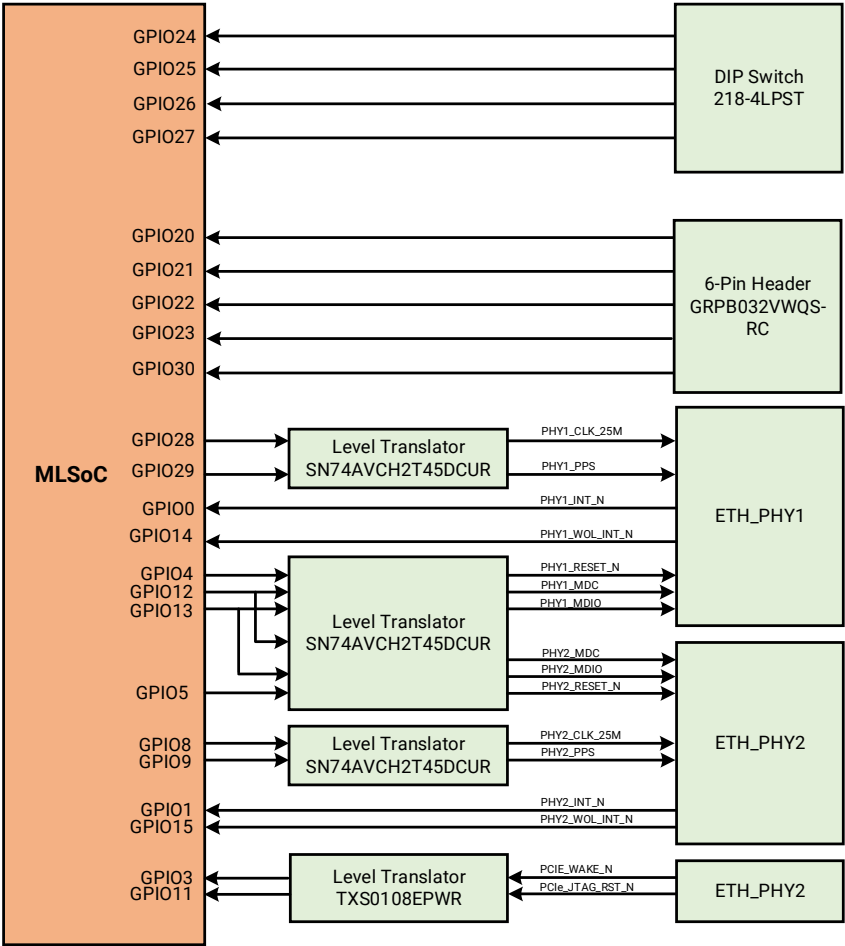

Figure 2-11. MLSoC GPIO Interface.
- Each GPIOs connections are shown in Figure 2-11.